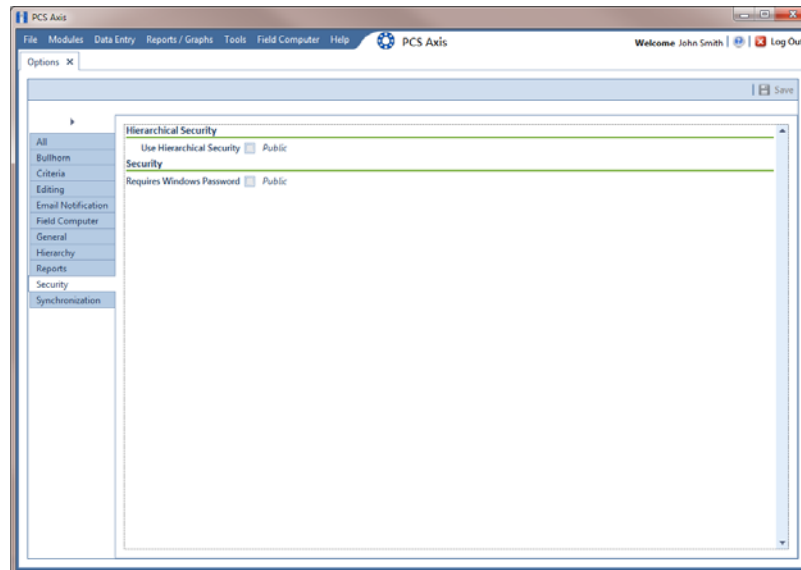

Figure 3-13. Security Options
- 2 Click the **Security** tab to open the *Security* options page (Figure 3-13).